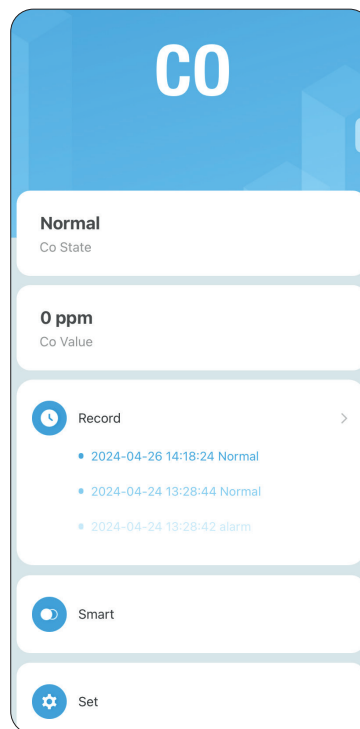

Fig. 9
- By clicking on the device symbol in the list of added devices we gain access to the current status of the device (Fig. 9).